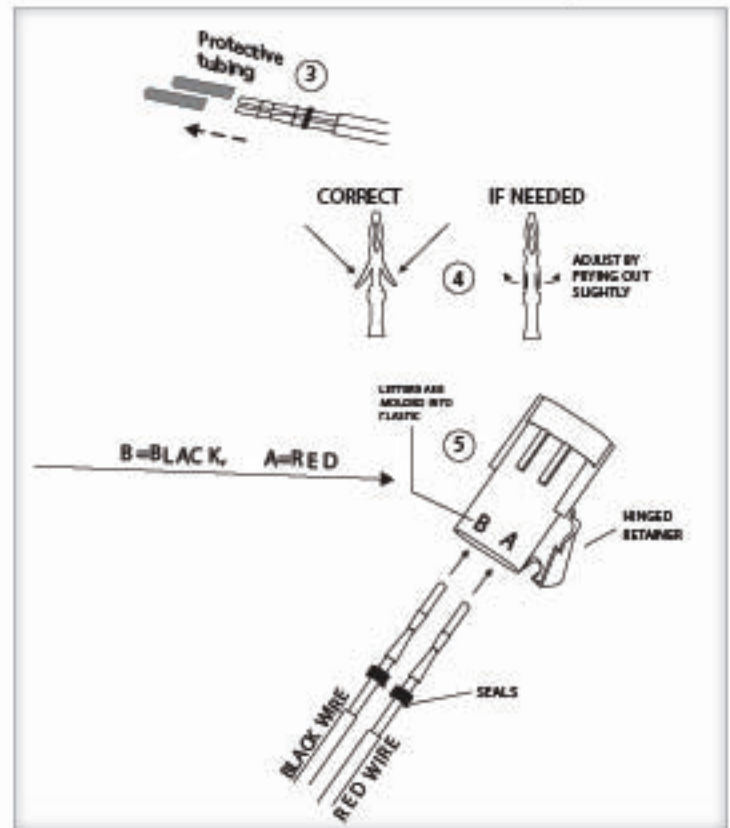

Figure 18-2
6. Flip open end connector's hinged retainer, insert pins as shown. [Figure 18-2]